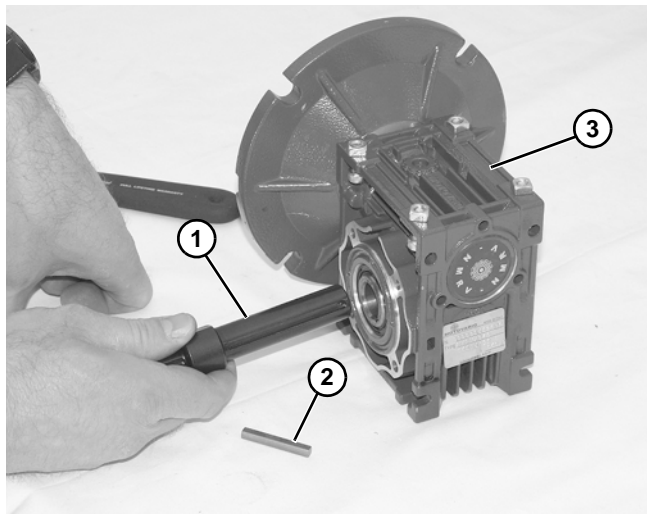

Figure 31
7. Remove driveshaft (**Figure 31, item 1**) and key (**Figure 31, item 2**).
8. Replace gear reducer (**Figure 31, item 3**).
10. Replace the original shaft components into new gear reducer (**Figure 31**).